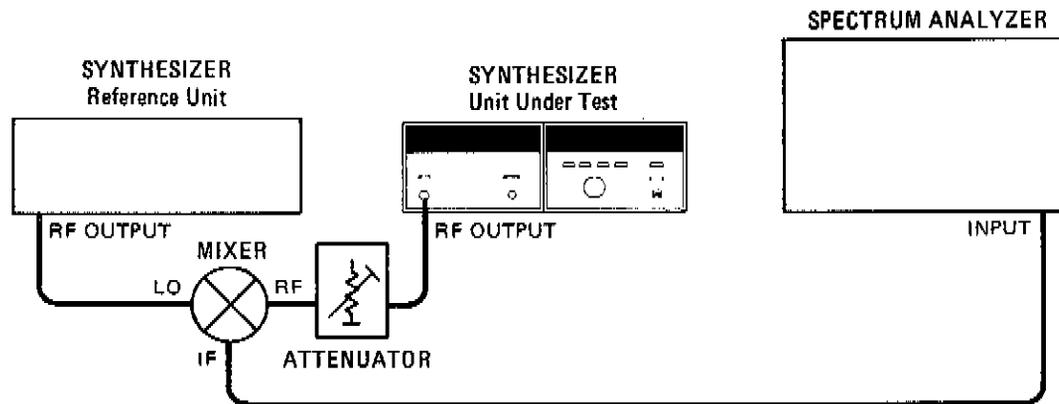

Figure 4-5. Signal-to-Phase Noise Ratio Test Setup
5. Connect the equipment as shown in Figure 4-5.